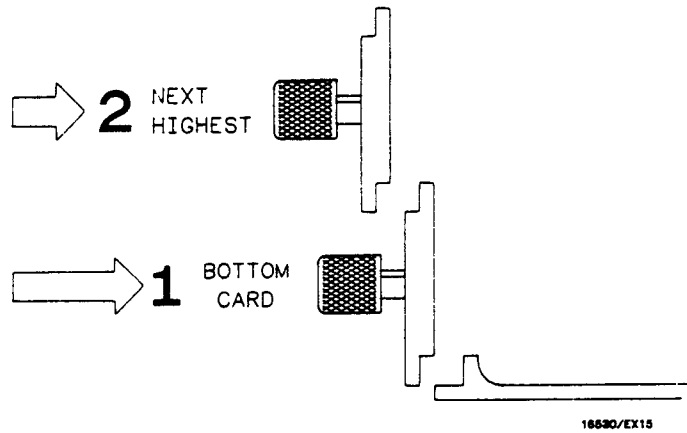

Figure A-9. Endplate Overlap
12. Repeat step 11 for all cards and filler panels in a **bottom to top** order. See figure A-9.